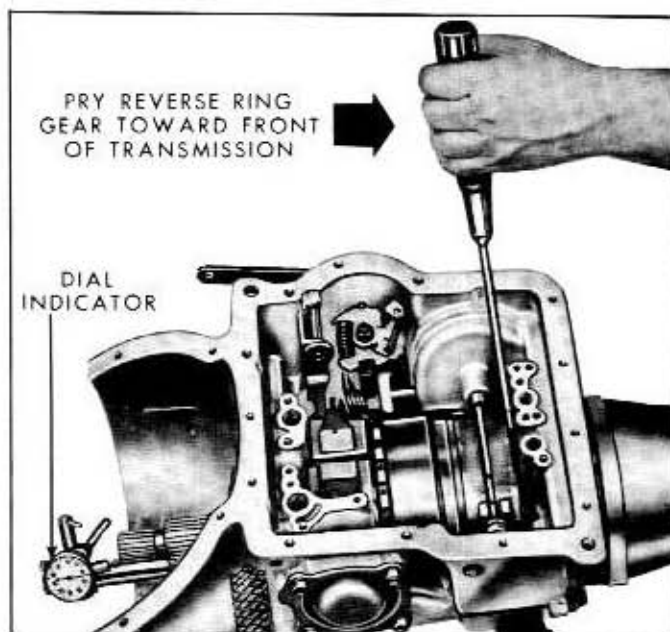

Fig. 7A-10—Prying Ring Gear Forward—(60C-4410)
1. After the transmission has been removed from the car, remove the converter and place the transmission assembly in the transmission holder shown in figure 7A-9.